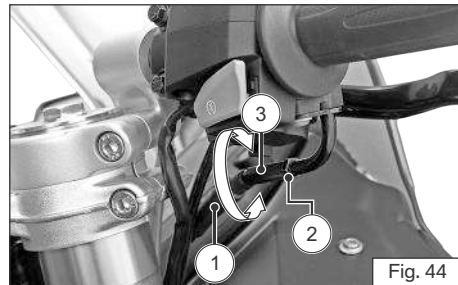

Fig. 44
- ♦ Slide the boot throttle adjuster (1) and then loosen the lock nut (2) (ref. Fig. 44).
- ♦ Turn the throttle cable adjuster (3) 'in' or 'out' until the specified play is obtained (ref. Fig. 44).